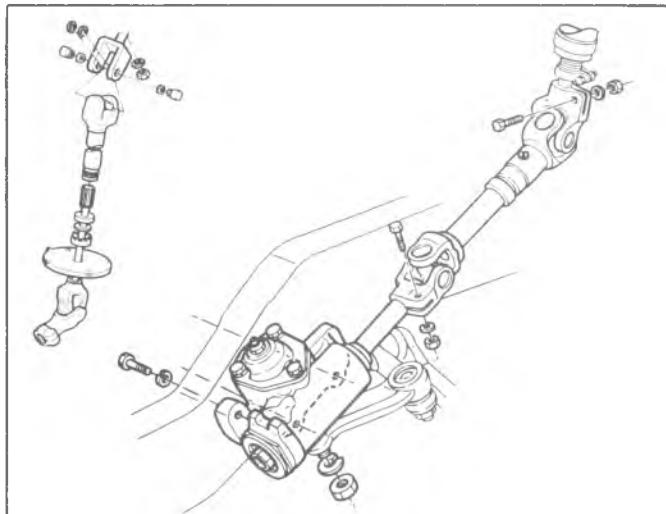

Fig. 46—Intermediate Steering Shaft — P Series
**INTERMEDIATE STEERING SHAFT WITH UNIVERSAL JOINT COUPLINGS****Removal (Fig. 46)**